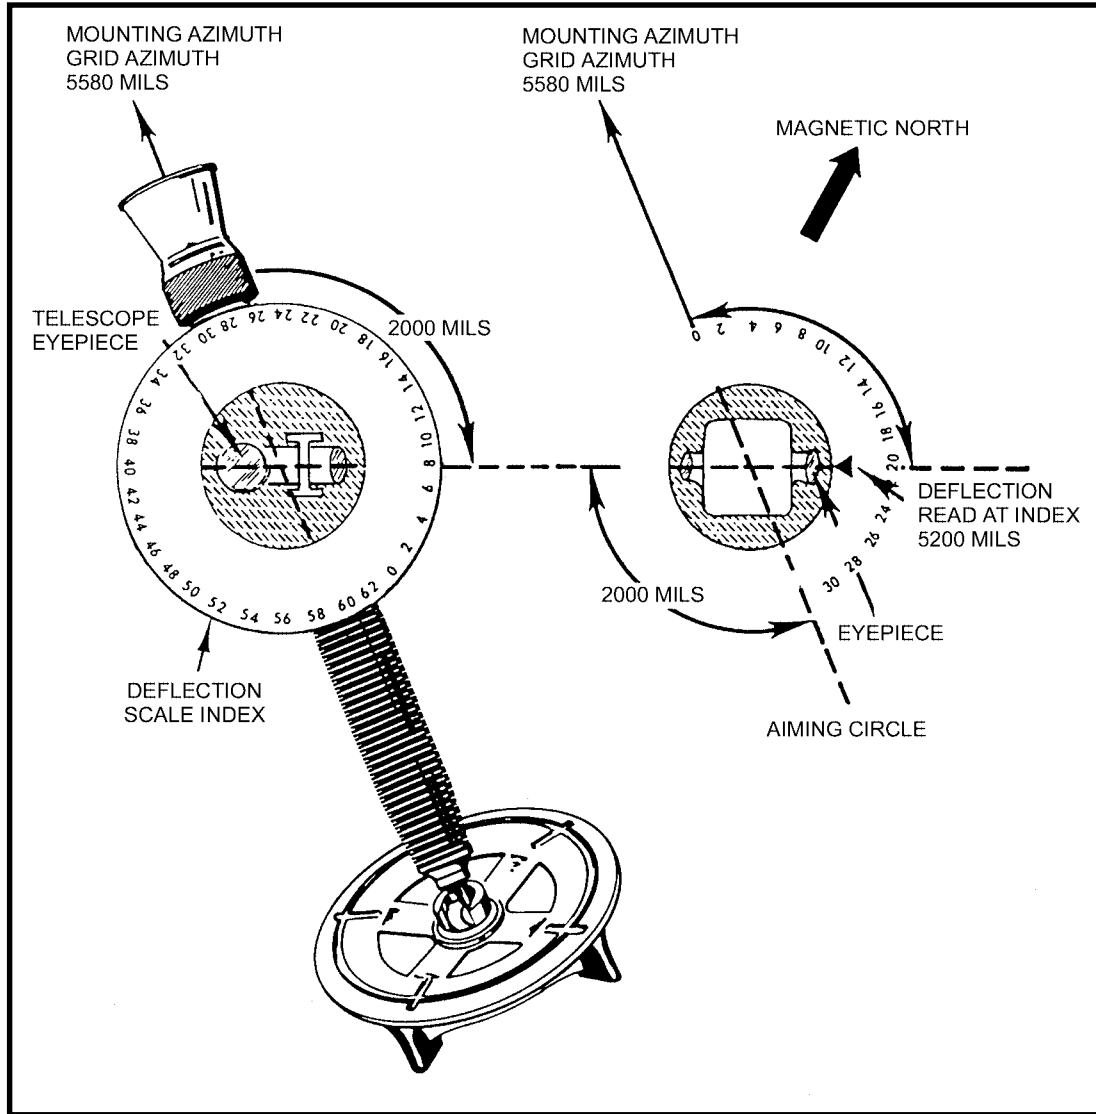

Figure 2-28. Mortar laid parallel with the aiming circle.
(2) The platoon sergeant (section sergeant) mounts and levels the aiming circle at a point from which he can observe the sights of all the mortars in the section (normally the left front or left rear of the section).
(3) He places 1300 mils on the azimuth and micrometer scales of the aiming circle (recording motion).
(4) Using the orienting knob, he centers the magnetic needle in the magnetic needle magnifier. This orients the 0-3200 line of the aiming circle in the desired direction (mounting azimuth 5550 mils).
(5) The platoon sergeant (section sergeant) announces, "Section, aiming point this instrument."
(6) All gunners refer their sights to the aiming circle with the vertical cross line laid on the center of the aiming circle. The gunner then announces, "Number two (one or three), aiming point identified."
(7) To lay the mortar barrel parallel to the 0-3200 line of the aiming circle (Figure 2-28), the platoon sergeant (section sergeant) turns the upper motion of the aiming circle until the vertical cross line is laid on the center of the lens of the mortar sight. He reads the azimuth and micrometer scales and announces the deflectionXfor example, "Number two, deflection one nine nine eight (1998)."